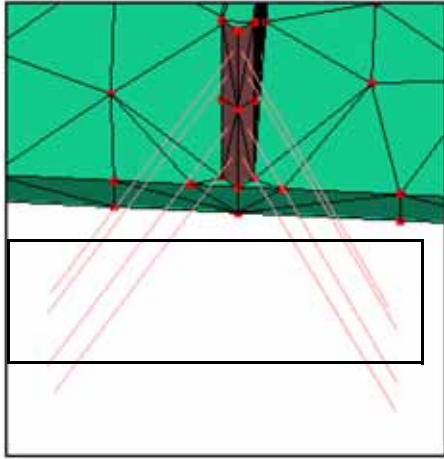

Figure 158: Band selecting using high aspect ratio lines
- Band select the elements by banding around the selecting the high aspect ratio lines at a rotation nothing else will be selected, as shown in Figure 158.